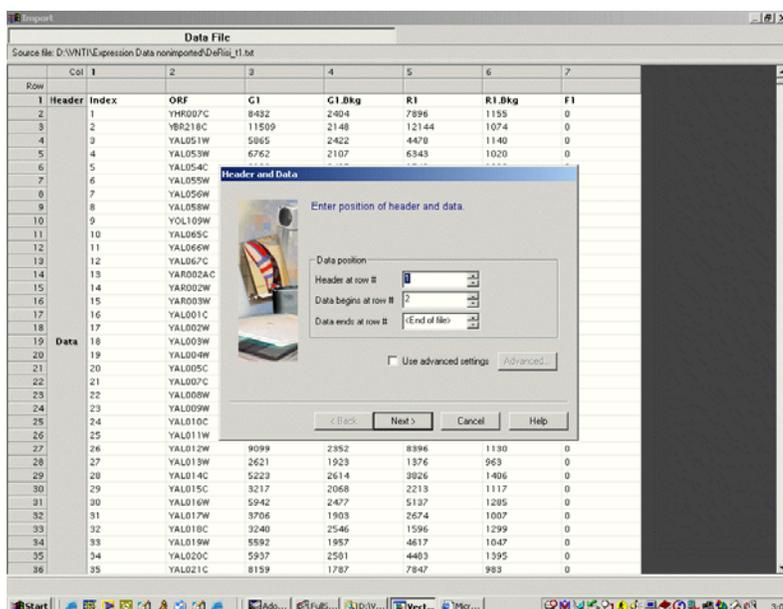

Figure 6 Import Dialog Box – Data from Source File
3. In the Import Data File Type dialog box that opens, select the **Raw Data** radio button and click **OK**. (Figure 6).
The Import window containing a spread-sheet view of the selected raw data source file opens (Figure 6). It is superimposed by the Header and Data dialog box.